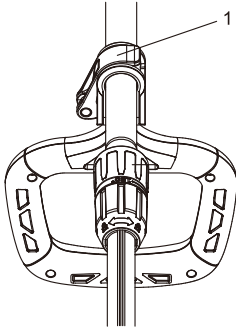

Fig. 6
NOTE: The assist handle mounting bracket can be slide up or down the telescoping tube, rotate from side to side or tilt forward or backward to place the assist handle in the most comfortable position. Turn locking lever(1) before adjusting the assist handle position and retighten it to lock the assist handle in the new position. (Fig.6)